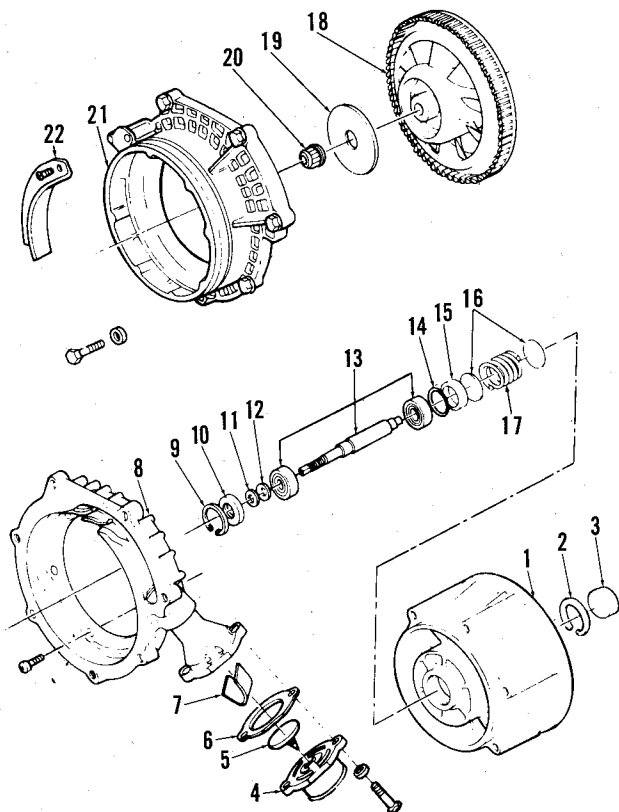
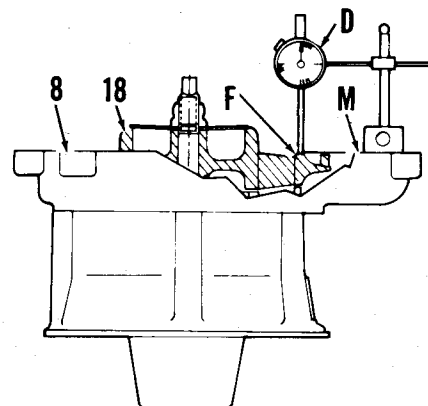

Fig. 119—Exploded view of heat exchanger fan.
Fig. 120—View showing dial gage placement to determine fan wheel shim size as outlined in text.
fan connector (4—Fig. 119), with check valve flapper (5) from turbine housing (8) then separate valve and connector. Remove gasket (6) and bridge (7) from housing. Remove baffle assembly (22) from inlet housing. Remove inlet housing screws, lockwashers and separate inlet housing (21) from turbine fan assembly (8).
Assemble discharge (1) and turbine (8) housings with marks aligned and tighten retaining screws to a torque of 100-120 in.-lbs. Install locknut (20) but do not tighten until shim (12) thickness is determined. With fan, bearings and shaft components assembled, mount a dial gage on mating surface of turbine housing as shown in Fig. 120. Zero dial gage on mating surface (M) then reposition dial gage to read difference in height between housing mating surface and fan wheel at surface (F). Rotate fan wheel and take at least four readings. Average the readings and the result will be thickness of shim (12—Fig. 119).
Shims are available in thicknesses of 0.002, 0.005 and 0.010 inch. With fan wheel properly positioned on shaft, tighten locknut (20) to 140-160 in.-lbs. If wheel drag is noticed when turning by hand, recheck clearance. Replace fan if housing rub can't be eliminated by shimming. Press bridge (7—Fig. 119 and 121) into turbine housing (8) so top of bridge is 0.05-0.06 inch below surface (M—Fig. 121). Reinstall all remaining components.
Fig. 121—View showing bridge (7-Fig. 119) installation. Press bridge (7) into turbine housing (8) so top of bridge is 0.05-0.06 inch below surface M. Refer to text and Fig. 119.